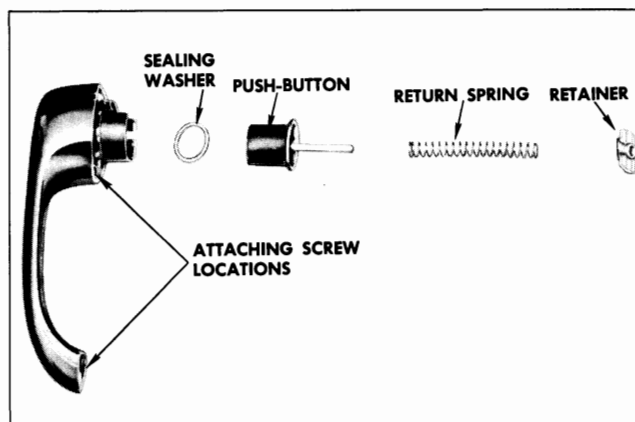

Fig. 12-8 Front Door Outside Handle
2. Depress and rotate retainer 1/4 turn. On front doors the retainer, pushbutton, pushbutton return spring and sealing washer can be removed separately. On rear doors the retainer, pushbutton and pushbutton return spring are serviced as one unit. See Fig. 12-8 for front doors and 12-9 for rear doors.